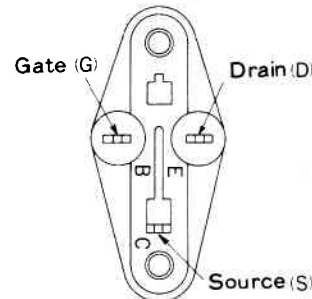

Fig. 5
- (1) When the stabilized power circuit and the peripheral parts of Q701 and Q702 (D706, R752, R753 and their peripheral parts) are replaced, the adjustment of the input/output DC may drift, so be sure to check the input/output/ DC voltage.
- (2) Since  $\text{E}$  grade of  $h_{FE}$  is specially classified into  $\text{E1}$  -  $\text{E3}$  for Q701 and Q702, replace them matching the proper grade with the proper channel.
- (3) Since the socket for transistor use is used for the socket of the POWER MOS FET, polarity is indicated as B, C, E. Match it to the indications shown in Fig. 5 when replacing the POWER MOS FET and when checking.